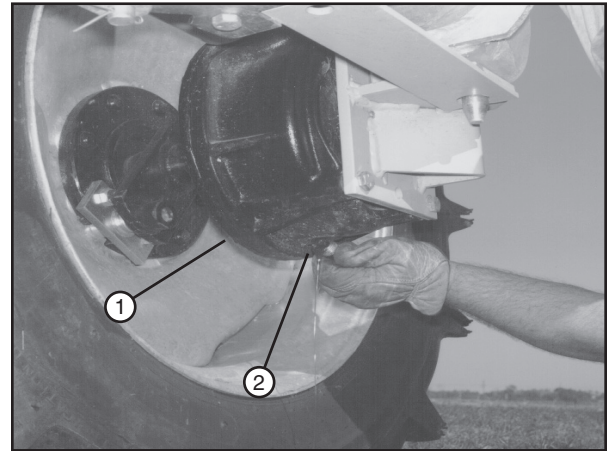

Figure 89-1 1. Wheel Gearbox
3. Remove the drain plug from the bottom of the wheel gearbox and drain the oil into a container. See figure 89-1.